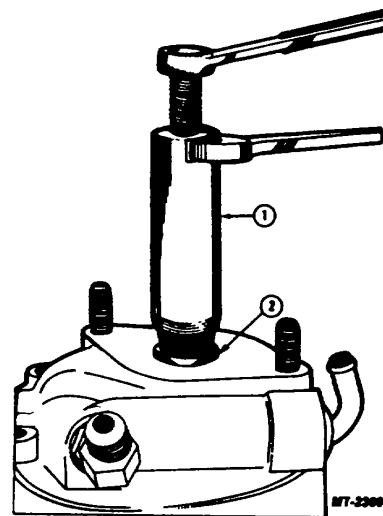

Fig. 10 Removing Shaft Seal
3. Thread tool bolt into tool and against top of pump shaft until tool and seal are drawn out of pump housing, Figure 10.